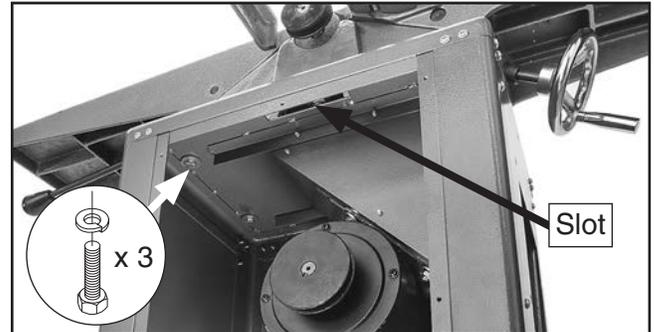

Figure 10. Example of jointer assembly attached to stand.
5. With help from another person, place jointer assembly onto stand. Attach assembly to stand with (3) $\frac{3}{8}$ "-16 x $\frac{3}{4}$ " hex bolts and $\frac{3}{8}$ " lock washers (see **Figure 10**).